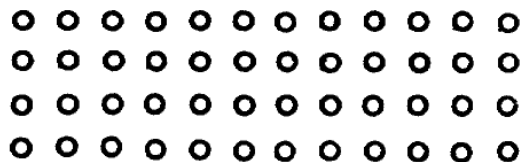

Figure 1-1. Undisturbed molecules
3. Molecules in any medium tend to stay in one spot and try to stay about the same distance apart from each other (fig 1-1).